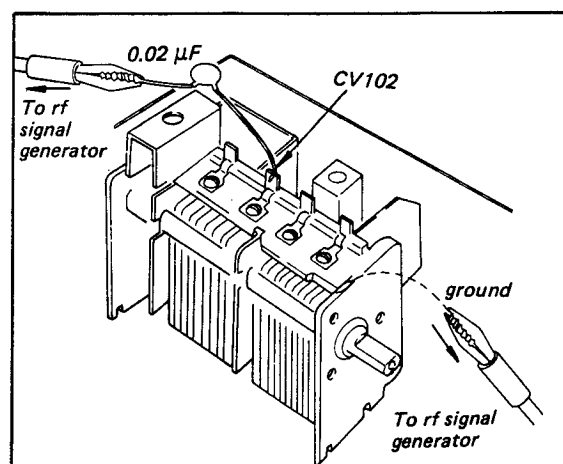

Fig. 3-4. 10.7-MHz signal injection
2. Connect the output cable of the generator across CV102 on the fm (a-m) front-end/i-f amp/MPX and preamplifier board through a 0.02  $\mu$ F coupling capacitor as shown in Fig. 3-4.